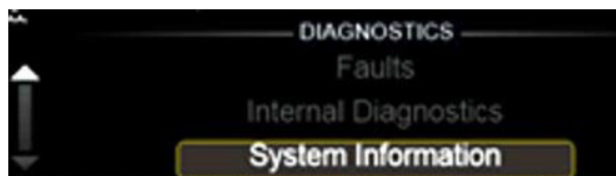
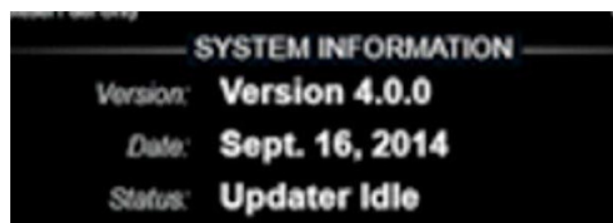

Fig. 15, Selecting the System Information Sub-Menu
Fig. 16, System Information
7. After selecting "Diagnostics," use the down arrow again and select "System Information," shown in Fig. 15, then press the OK button. System information will display in the center of the instrument panel. See Fig. 16 for an example of the system information.